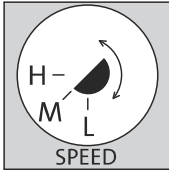

Fig. 6 Changing the speed
4. Gently rotate speed selector to desired speed. See fig. 6.